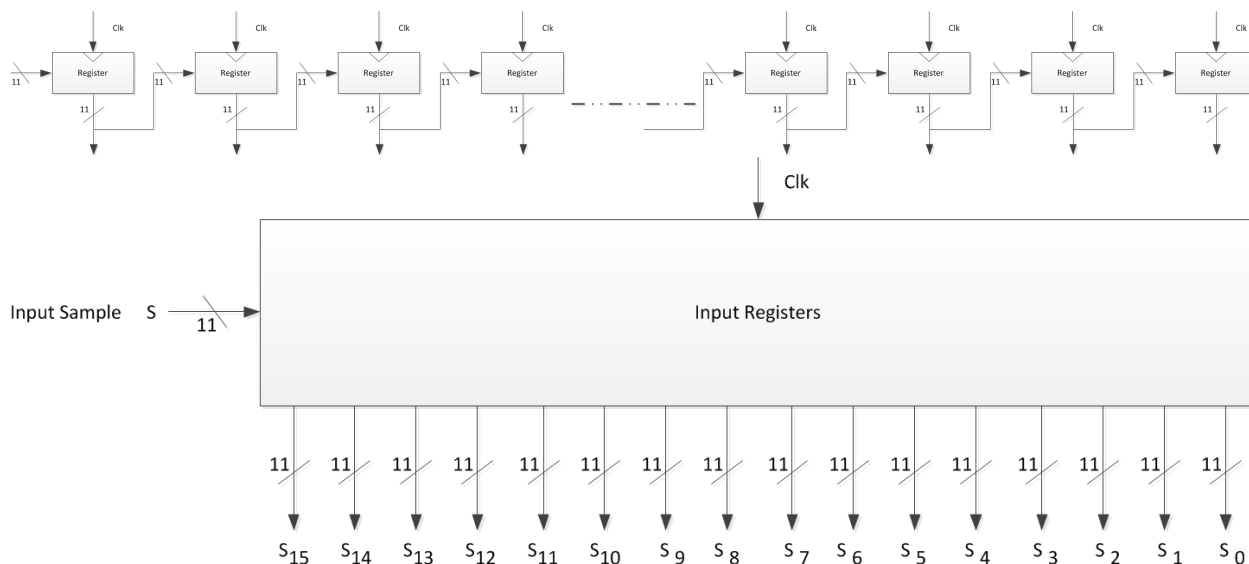

Figure 7 Register Array
As discussed in the lectures, registers are required to store samples temporarily for processing. The register array structure is shown in Figure 7. VHDL code for a single 8bit register is shown in Figure 8.
- Model the register array shown in Figure 7 using VHDL.